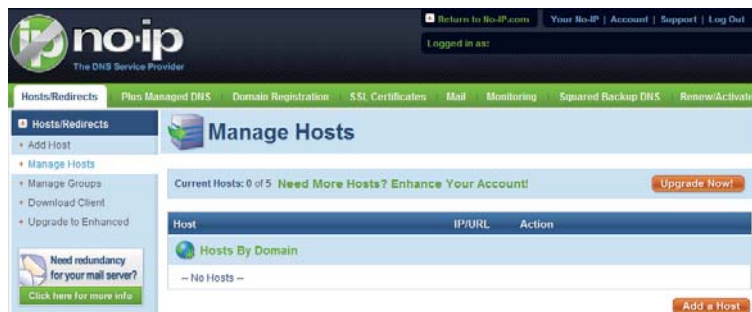

Figure 0-7
7. The Manage Hosts interface is shown as in Figure 0-7. Click the Add Host button you can access the creation of a domain name.